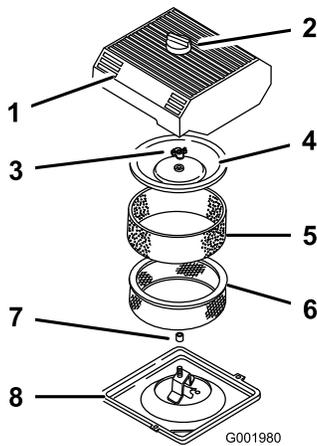

Figure 37
3. Clean around the air cleaner to prevent dirt from getting into the engine and causing damage (Figure 37).
4. Loosen the knob on the air-cleaner cover and remove the cover (Figure 37).
5. Carefully slide the foam element off the paper element (Figure 37).
6. Unscrew the cover nut and remove the cover and paper element (Figure 37).
1. Carefully slide the foam element onto the paper air-cleaner element (Figure 37).
3. Install the cover nut finger-tight against the cover (Figure 37).
4. Install the air-cleaner cover and knob (Figure 37).